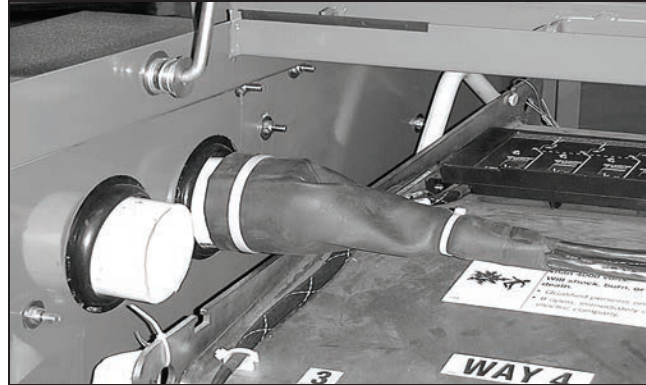

Figure 28. Secure tubing and cable bundle with tie wraps.
- (f) Gather and twist the butyl tubing around the cable bundle and apply the largest tie-wrap over the PVC pipe and butyl tubing. Gather the excess butyl tubing and attach the smaller tie-wrap over the cable and tubing. See Figure 28.